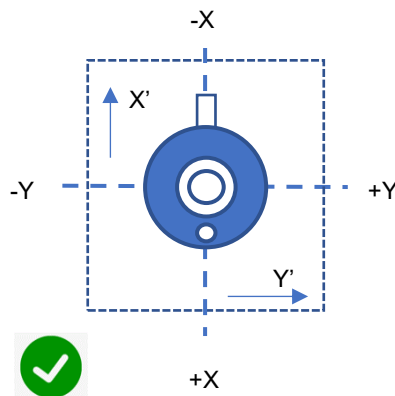
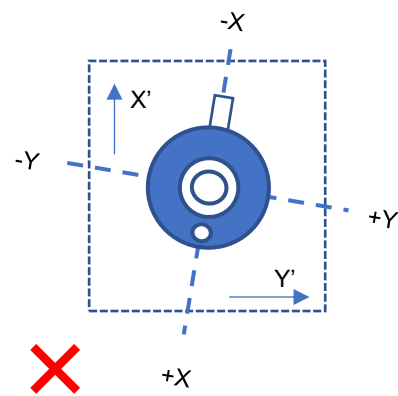

Figure 5-3B Tilt and roll angle corresponding to reference plane
Figure 5-3C Tilt and roll angle not corresponding to reference plane
For setup at inclined plane: Setup the pyranometer with signal cable aligned with the installation platform (X', Y'), see figure 5-3B. When the sensor is not aligned, the tilt (X) and roll (Y) measurement does not reflect the angle X' and Y', see figure 5-3C.